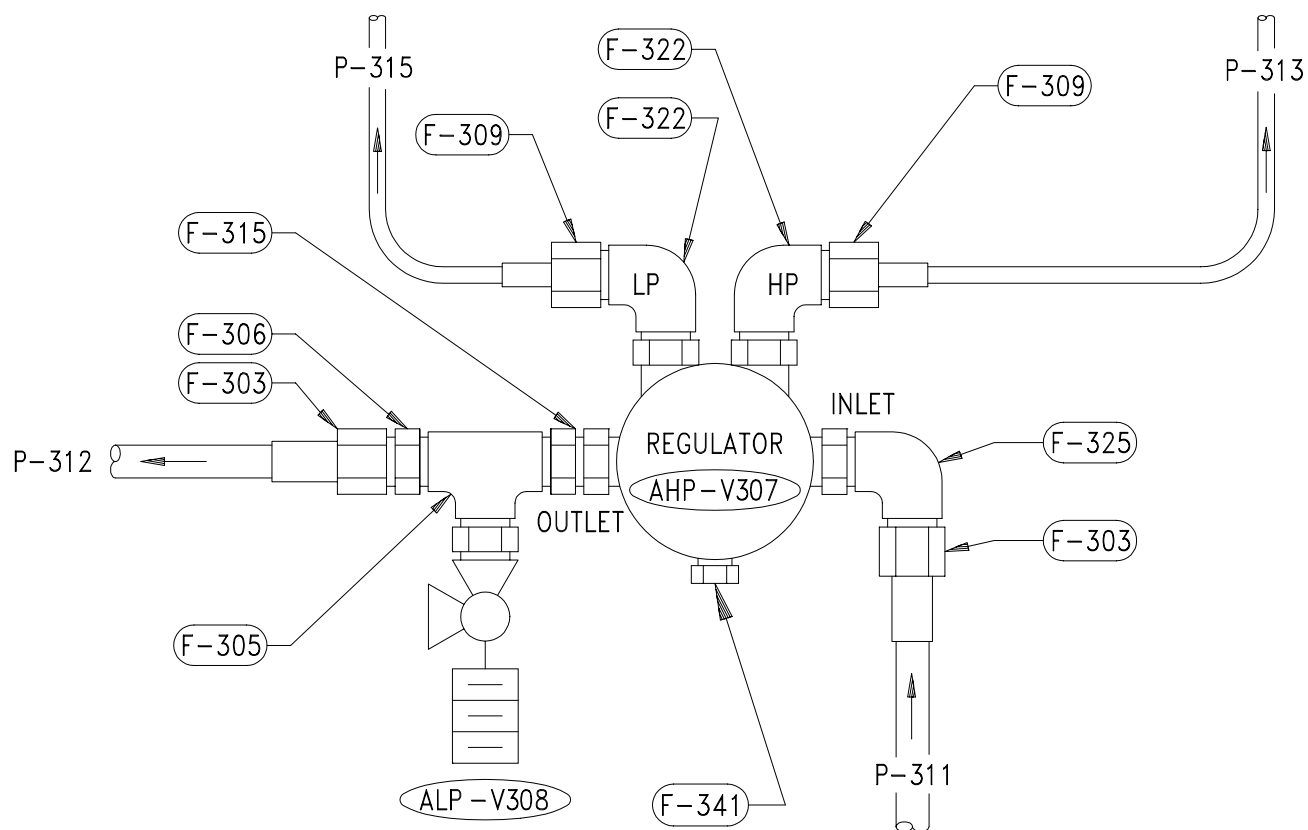

Figure 6-26. Location of Parts Attached to Regulator (AHP-V307)
Refer to Figure 6-26 for the location of parts called out in Steps (6) thru (9) and (11) thru (14). Figure 6-26 reflects a portion of the control console assembly schematic found on JID 6314821, sheet 5.
- (6) **AT HP GAUGE PORT ELBOW (F-322):** Loosen tubing nut (F-309) and remove tubing (P-313) from elbow (F-322). Bag open end of tubing.
- (7) **AT LP GAUGE PORT ELBOW (F-322):** Loosen tubing nut (F-309) and remove tubing (P-315) from elbow (F-322). Bag open end of tubing.
- (8) **AT INLET PORT ELBOW (F-325):** Loosen tubing nut (F-303) and remove tubing (P-311) from elbow (F-325). Bag open end of tubing.
Refer to Figure 6-26 for location of components called out in Steps (2) thru (7) and (9) thru (12).
- (2) **AT VENT PORT:** Remove bagging from bleeder plug (F-341). Using approved lubricant, lubricate one new O-ring (M83248/2-904) and install on bleeder plug (F-341). Install bleeder plug in regulator vent port.
- (3) **AT OUTLET PORT:** Remove bagging from tee (F-305). Using approved lubricant, lubricate new O-ring (M83248/2-908) and install on positionable union (F-315). Using approved lubricant, lubricate new face seal O-ring (M83248/2-111) and install in O-ring groove on tee adapter (F-306). Install positionable union end of tee (F-305) in regulator outlet port and tighten union nut.
Refer to Figure 6-26 for the location of parts called out in Steps (4) thru (7) and (9) thru (12). Figure 6-26 reflects a portion of the control console assembly schematic found on sheet 5 of JID 6314821.
- (4) **AT HP GAUGE PORT ELBOW (F-322):** Loosen tubing nut (F-309) and remove tubing (P-313) from elbow (F-322). Bag open end of tubing.
- (5) **AT LP GAUGE PORT ELBOW (F-322):** Loosen tubing nut (F-309) and remove tubing (P-315) from elbow (F-322). Bag open end of tubing.
- (6) **AT INLET PORT ELBOW (F-325):** Loosen tubing nut (F-303) and remove tubing (P-311) from elbow (F-325). Bag open end of tubing.
- (7) **AT OUTLET PORT TEE (F-305):** Loosen tubing nut (F-303) and remove tubing (P-312) from tee adapter (F-306). Bag open end of tubing.
- (3) **AT OUTLET PORT:** Remove bagging from tee (F-305). Using approved lubricant, lubricate one new O-ring (M83248/2-908) and install on positionable union (F-315). Using approved lubricant, lubricate new face seal O-ring (M83248/2-111) and install in O-ring groove on tee adapter (F-306). Install positionable union end of tee (F-305) in regulator outlet port and tighten union nut.
- (4) **AT INLET PORT:** Remove bagging from elbow (F-325). Using approved lubricant, lubricate one new O-ring (M83248/2-908) and install on straight threads of elbow (F-325). Install elbow in regulator inlet port.
- (5) Using approved lubricant, lubricate one new face seal O-ring (M83248/2-111) and install in O-ring groove of elbow (F-325).